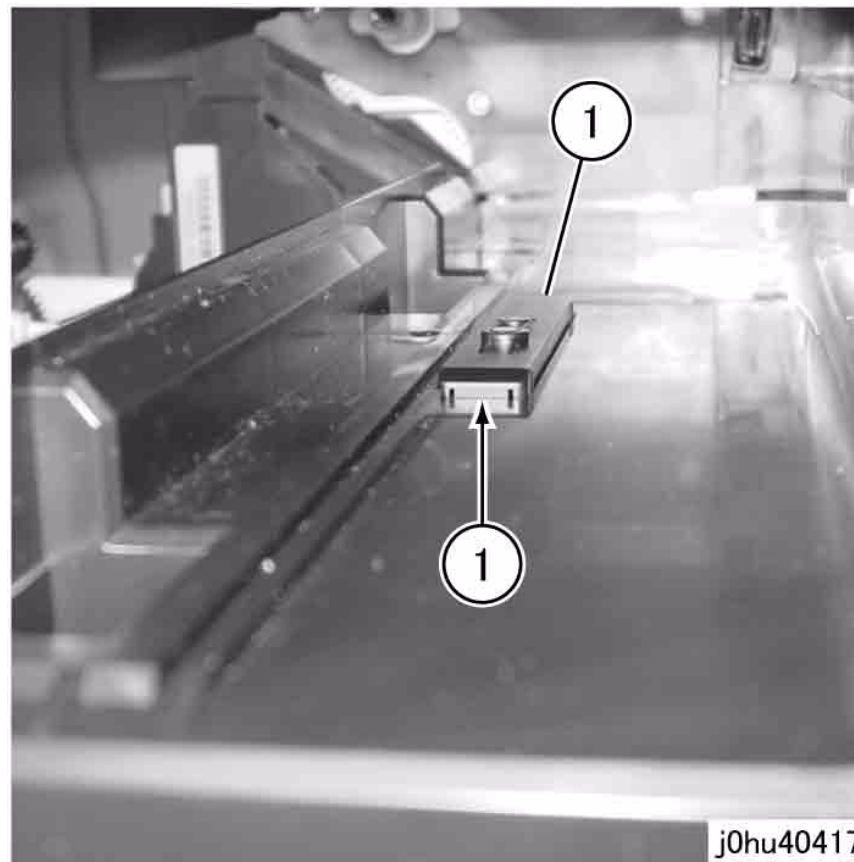

Figure 2 Remove Toner Empty Sensor
5. Remove the Toner Empty Sensor (Figure 2).